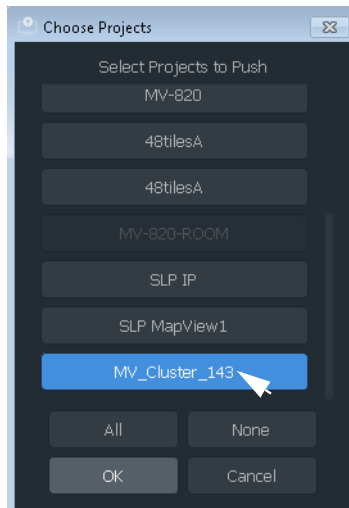

Fig. 14-14: Choose Push
- 2 Ensure that the project Repository to be pushed is selected (highlighted in blue) in the dialog. See Figure 14-14.